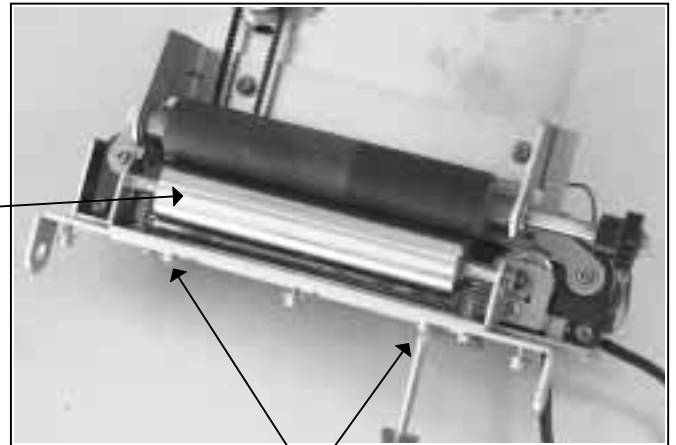

Fig. 7-4
5.	Remove (2) screws to detach roller assembly. Fig. 7-4